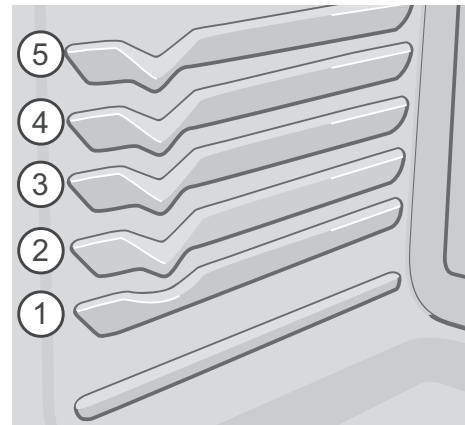

Fig. 2 Rack positions
- For best results when baking cakes using 2 racks, place cookware on oven rack positions 1 and 4 or 5 (flat rack). (Figure 2)